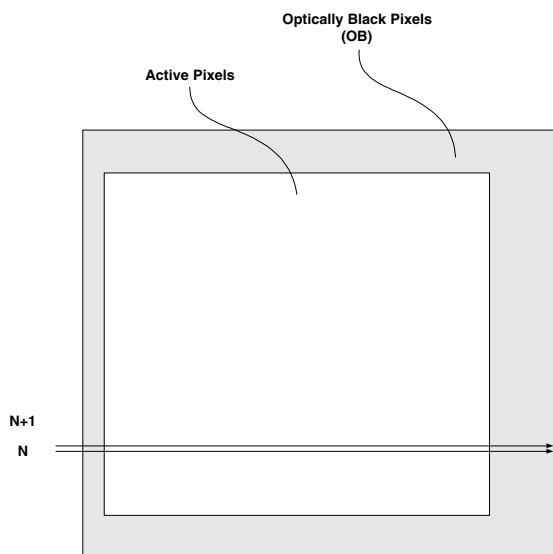

Figure 13. Typical Outline of an Area Array CCD.
The XRD9855 and XRD9856 use the Optically Black (OB) pixels on a CCD array to calibrate for itself and the CCD. Figure 13 shows the outline of a typical CCD. The shaded region on the outside of the array indicates the position of the optically black (OB) pixels. The center region indicates the position of the active pixels used for an image.